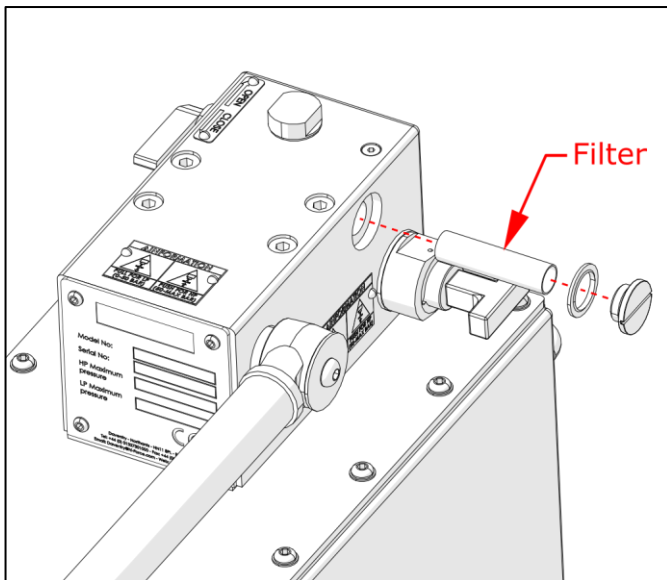

Figure 7.1: Filter Removal/Replacement
- After heavy use, it may be necessary to clean the filter (See figure 7.1). Before removing the filter element from the pump, make sure that the system has been fully depressurised.